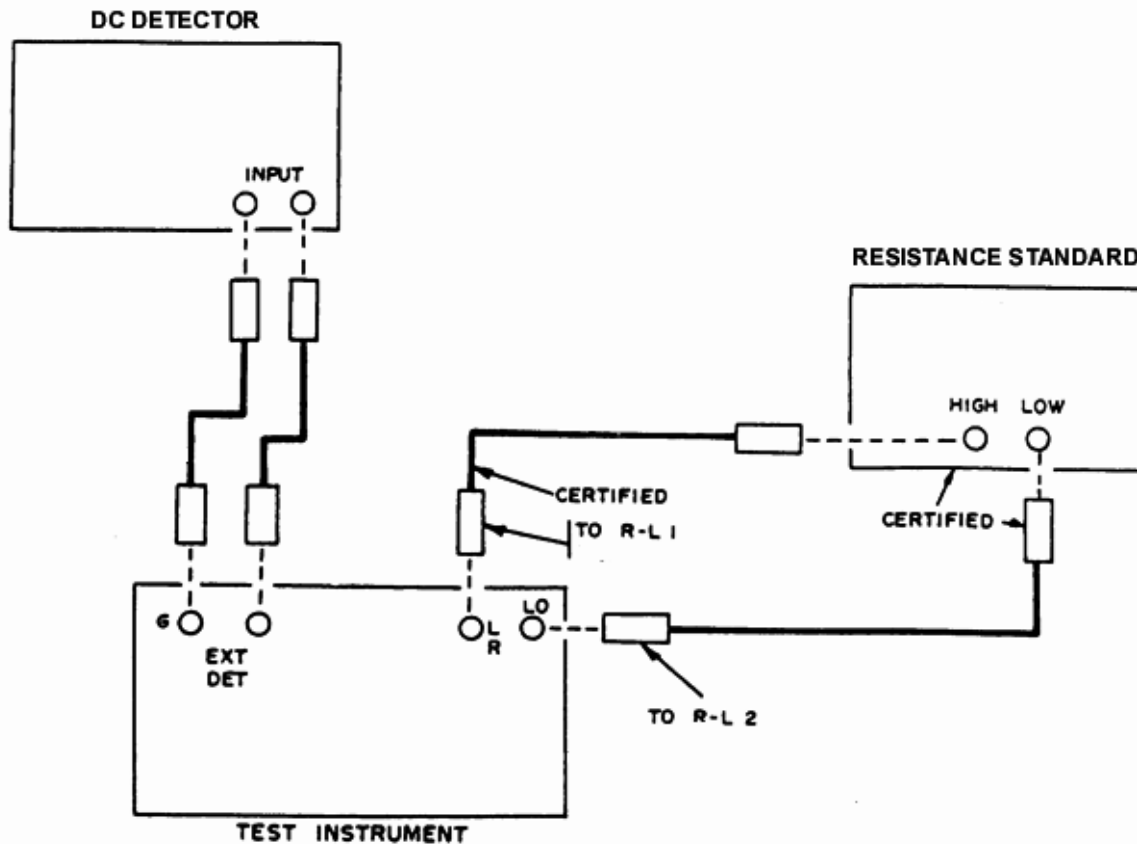

Figure 3. Resistance - equipment setup.
(1) Certify resistance standard values with leads at 1, 10 and 100 Ω ; 1, 10, and 100 k Ω ; and 1 M Ω settings respectively using resistance bridge and dc detector (part of resistance measurement system). Record each value to 100 ppm.
(2) Set **RANGE** switch to **RX0.1 Ω** and **FUNCTION** switch to **RX1**.
(3) Set **GEN-DET** switch to **INT-DC** and **DET-GAIN** control to **2**.
(4) Connect equipment as shown in figure 3.
(5) Adjust resistance standard to 1.00 Ω .
(6) Adjust **LRC DIALS** until dc detector indicates null.
(7) TI dials will indicate within ± 1 percent plus one dial division of certified value recorded in (1) above.
(8) Repeat technique of (5) through (7) above for **RANGE** switch settings of **RX1**, **10**, **100**, **1K**, **10K**, and **100K**, with resistance standard set to 10 and 100 Ω ; 1, 10, and 100 k Ω ; and 1 M Ω , respectively.